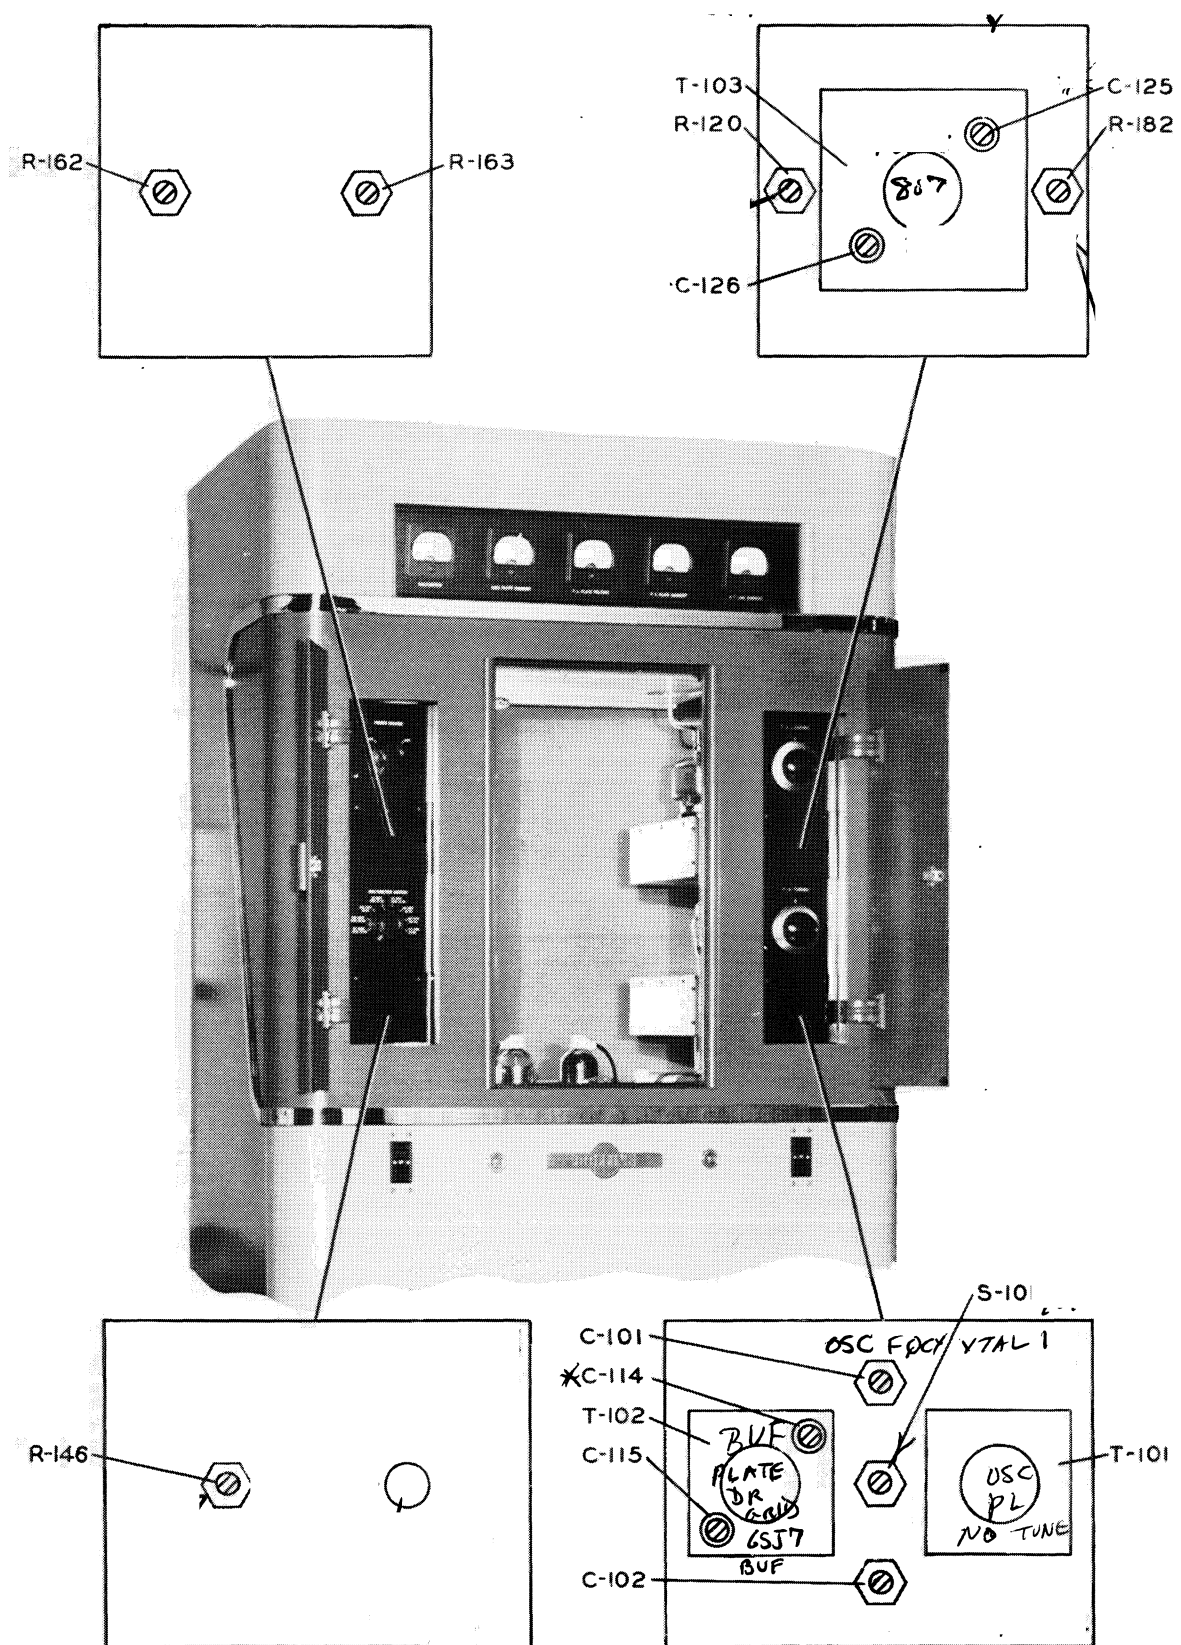

FIGURE 3-1 LOCATION OF CONTROLS BEHIND INSPECTION PLATES
(4) RF Output Network Compartment.
(5) RF Cans. - There are three rf tank cans associated with the oscillator, buffer and rf driver plate circuits. Refer to figure 3-1 for their correct positions and install them in their proper sockets.